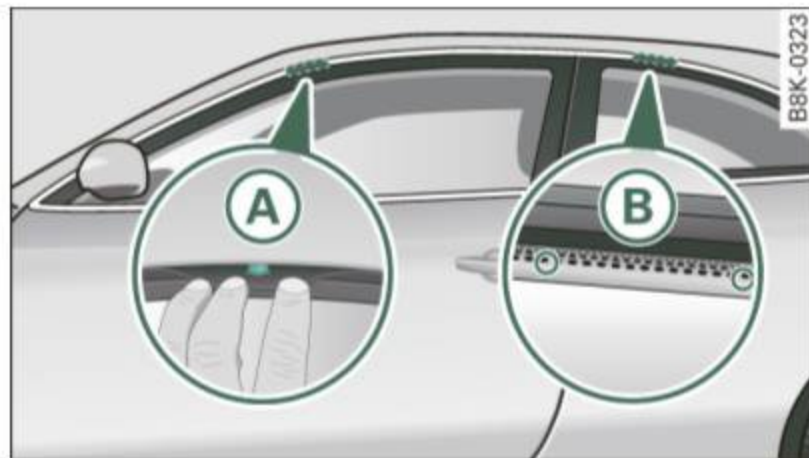

Fig. 98 Mounting locations for roof rack
When installing the front feet, make sure that they are positioned exactly on the positioning bolts provided (A) between the side panel and the upper roof frame ⇒ fig. 98. The bolt is visible as soon as you push back the seal from the upper roof frame using the installation tool supplied with the roof rack. The rear markings (B) are identified at the upper edge of the side glass by two small arrowheads. ■